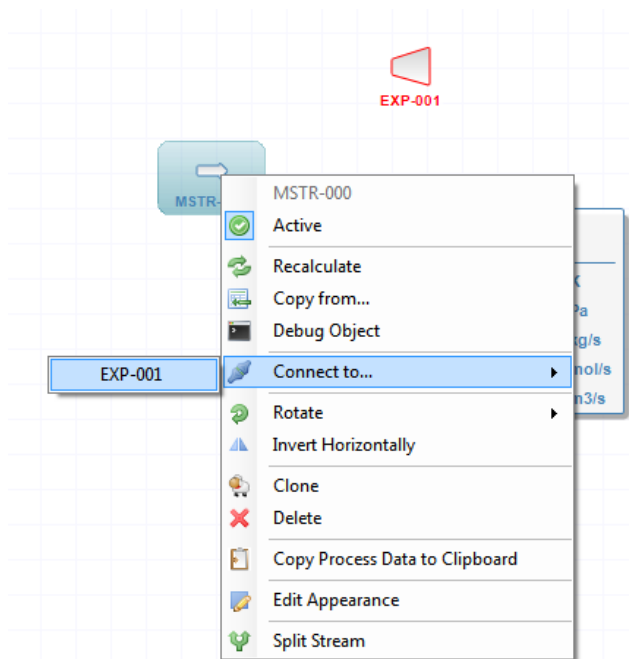

Figure 16: Selected object context menu.
- Through the context menu activated with a right mouse button click over the object (Figure 16);
Removing objects from the flowsheet The selected object can be removed from the flowsheet by pressing the DEL keyboard button or by using the context menu - "Delete" item (Figure 16).